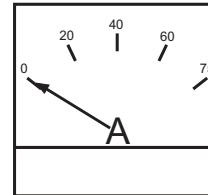

Figure 42. Ammeter (No Load)
10. The ammeter (Figure 42) will indicate zero amps with no load applied. When a load is applied, this meter will indicate the amount of current that the load is drawing from the generator's alternator.